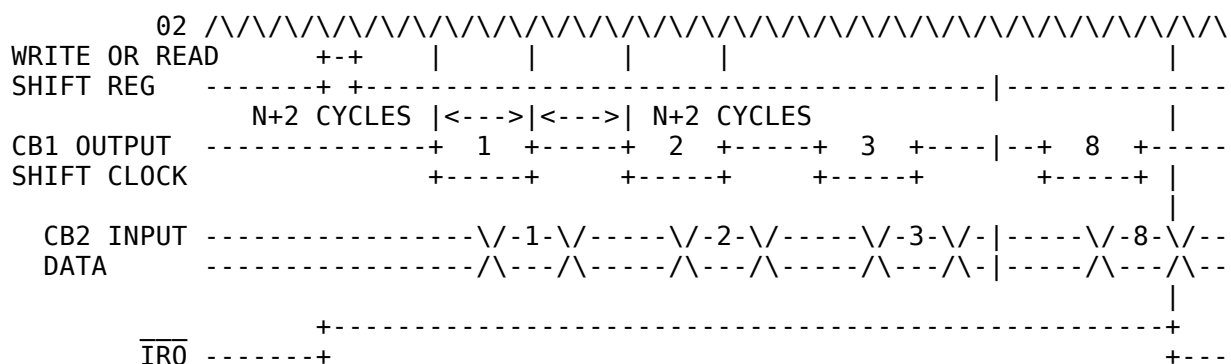

Figure 22. SR Mode 1 -- Shift In Under T2 Control
In mode 1, the shifting rate is controlled by the low order 8 bits of T2 (Figure 22). Shift pulses are generated on the CB1 pin to control shifting in external devices. The time between transitions of this output clock is a function of the system clock period and the contents of the low order T2 latch (N).